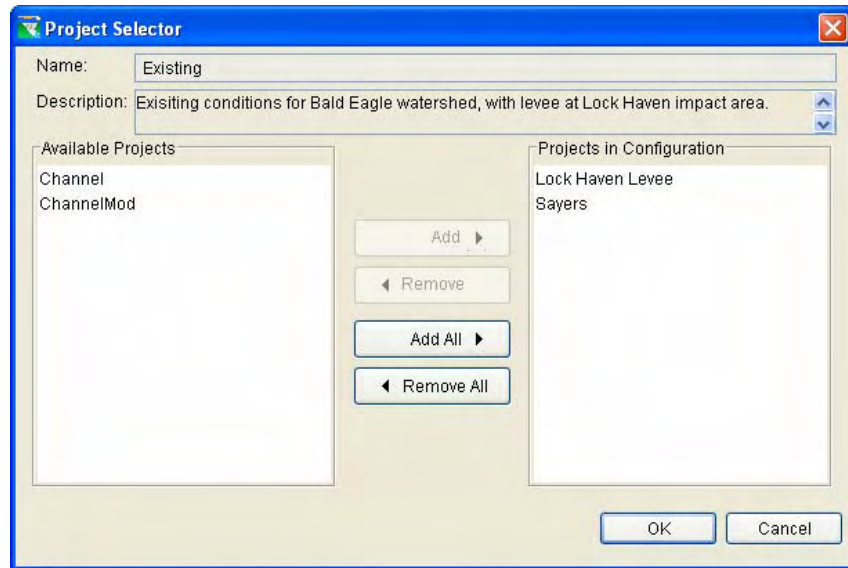

Figure 7.5 Project Selector
- The **Project Selector** dialog box (Figure 7.5) will open. The Project Selector displays the Configuration name and description for reference. The left pane contains all **Available Projects** not already associated with the Configuration (in this example, two projects, Channel and ChannelMod). The **Projects in Configuration** pane on the right lists all Projects currently
1. To add *individual* Projects, click on the Project's name in the **Available Projects** list (Figure 7.5) to select it, and then click the **Add** button to move it to the **Projects in Configuration** list.
1. To remove *individual* Projects, click on the Project's name in the **Projects in Configuration** list (Figure 7.5) to select it, and then click the **Remove** button to move it to the **Available Projects** list.